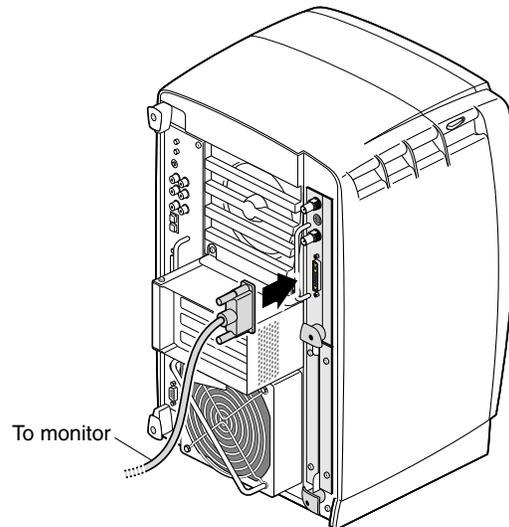

Figure 13 Reconnecting the Monitor Cable
8. Reconnect the monitor cable (see Figure 13) and all XIO cables to the XIO Tri-Module.